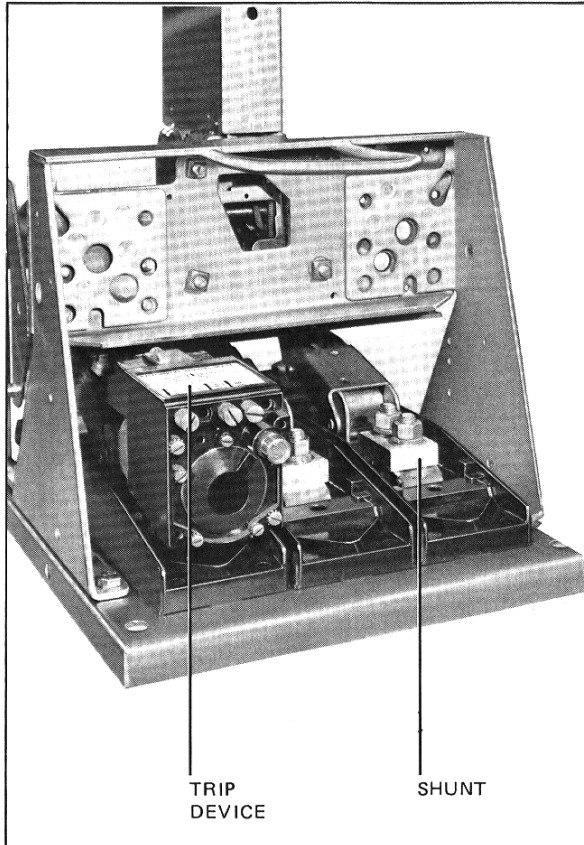

Fig. 8 *Removal of Electro-Mechanical Trip Devices*
- C. Remove the three electro-mechanical trip units and replace with three copper jumpers using .5-13 x 2.25 bolts, see Fig. 8. On electrically operated breakers, the control relay must be removed before the left trip unit is removed. Replace the control relay after the shunt is installed. The existing barriers between the pole units can remain in place.
- C. Remove the three electro-mechanical trip units and replace with three copper jumpers using .5-13 x 3.0 bolts, Fig. 8.